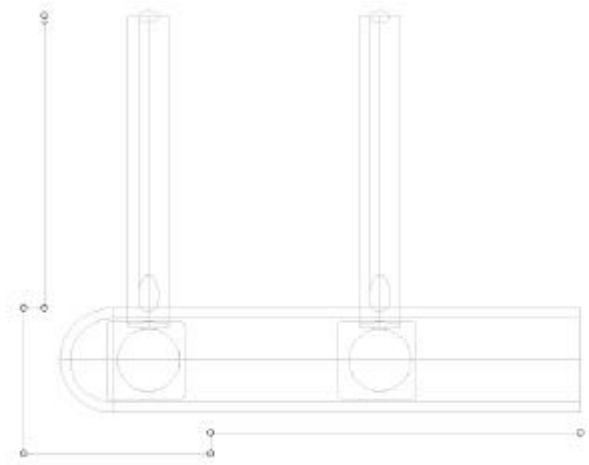

Figure 6-4: The Curve Deck Edge in Top View
1. Create a curve, **Deck Edge**, using the **Draw Curve** option, that represents the outer edge of one quarter of the deck. (Once you have drawn the curve, click the right mouse button, name the curve Deck Edge, and set Maximum Degree to 1, and Method to Control Points. See the AutoShip Reference Manual for more details.) Refer to figure 6-4.